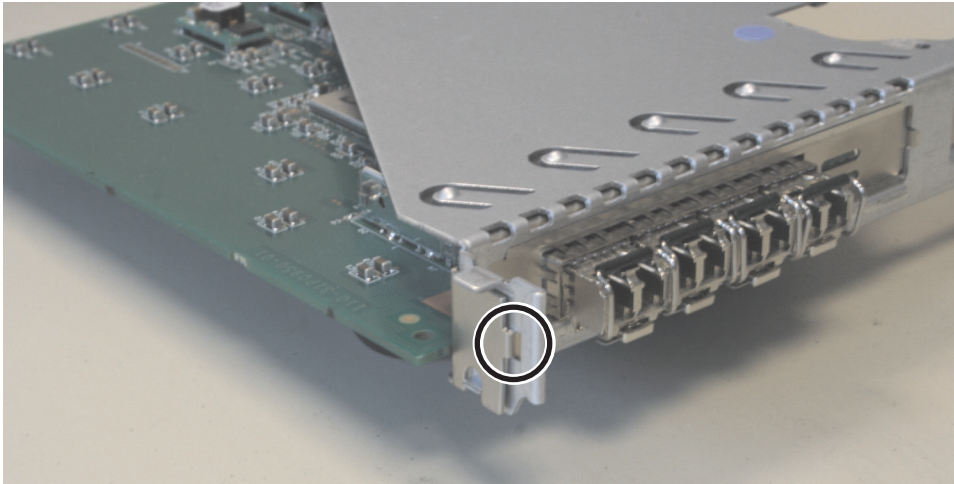

Figure 181. SAN Volume Controller 2145-8A4 riser-card assembly
2. Slide the Fibre Channel adapter into position, keeping it close and parallel to the back edge of the riser card. Push the adapter securely into the connector. Ensure that the positioning clip on the adapter goes into the locating hole on the riser card, as shown in Figure 181 on page 196.